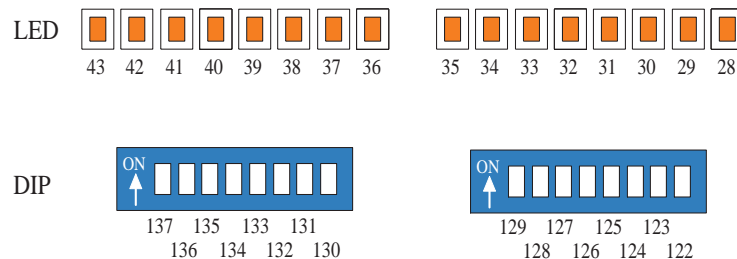

Figure 1: Enumeration of pad connections to hardware input and output devices.
- Suppose you wish to output the hex value 0xC to the 4 LEDs you initialized. What are the appropriate GPIO pin data output (GPDO) registers you would write to and what values would you write to them? By referring to Figure 1, we see that LED 31 should display the most significant, and LED 28 should display the least significant bits of the binary representation of 0xC.
Throughout the laboratory we will be using an interface board with the MPC5553EVB. The purpose of the interface board is to provide you easy access to the signal channels you will need in the laboratories, and provide a safe buffer between your input signals and the microprocessor. The interface board includes 16 DIP switches and 16 LED lights, connected to the GPIOs on the microprocessor as shown in Figure 1.